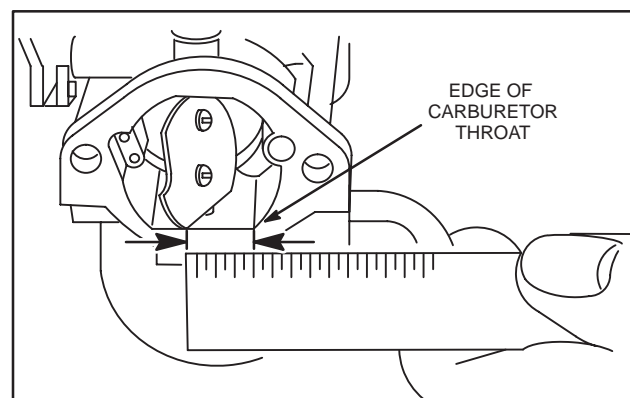

Fig. 51 – Checking Choke
2. Check dimension from edge of choke plate to edge of carburetor throat, Fig. 51.